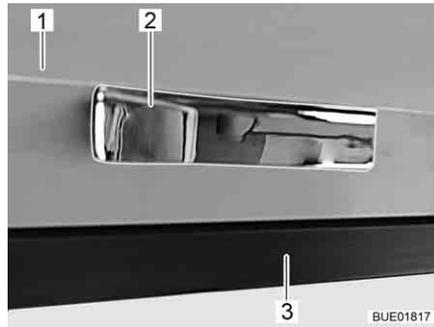

Fig. 81 Furniture flap with pressurised release
- Press the furniture flap (Fig. 81,1) with the handle (Fig. 81,2) against the cabinet body (Fig. 81,3). The furniture flap is unlocked.